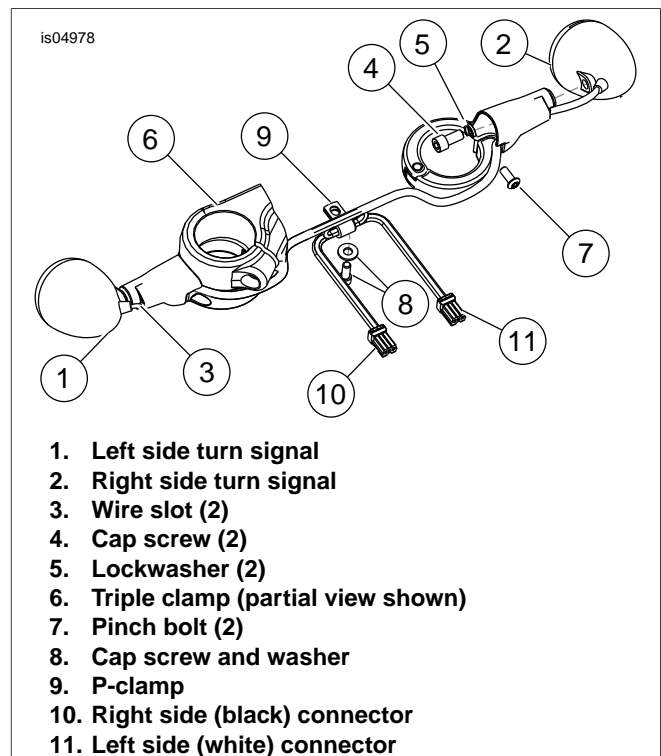

Figure 4. Installation of Mounting Bracket and Wire Harness
See Figure 4. The mounting brackets are stamped with either LH (left side) or RH (right side). Be sure to install the correct bracket on the correct side.
- See Figure 4. Install the socket terminals from the the turn signal harnesses into the correct lamp side connector halves following the instructions in the appropriate Service Manual. Unless noted differently on removal,